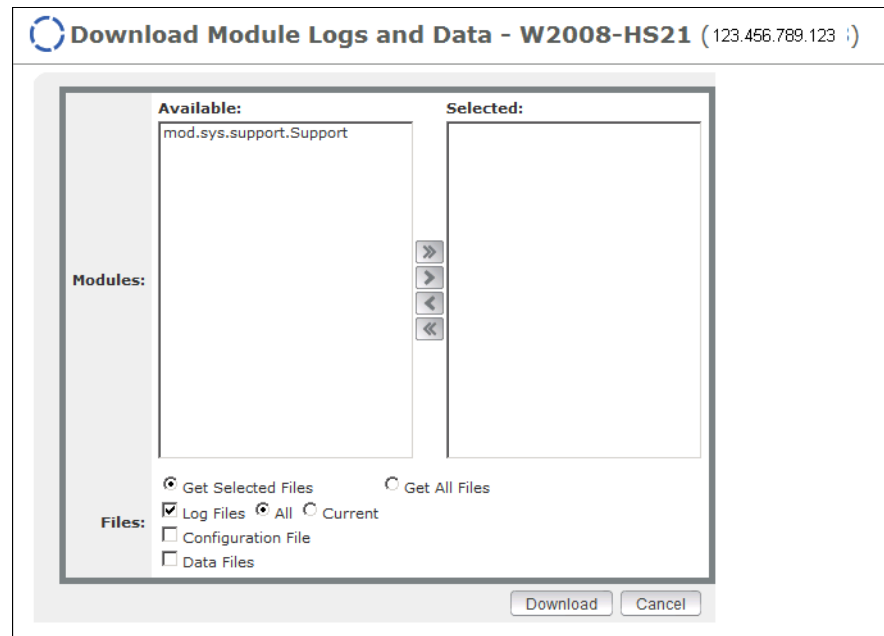

Figure 14-31 Download Module Logs and Data
3. Click the **Download Module Logs and Data** link to open the window shown in Figure 14-31. Here you can specify the module logs and additional Configuration File and Data Logs that you want to save to the local system by selecting the appropriate check boxes.